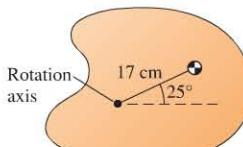

FIGURE P7.36
36. **III** The 2.5 kg object shown in Figure P7.36 has a moment of inertia about the rotation axis of  $0.085 \text{ kg} \cdot \text{m}^2$ . The rotation axis is horizontal. When released, what will be the object's initial angular acceleration?